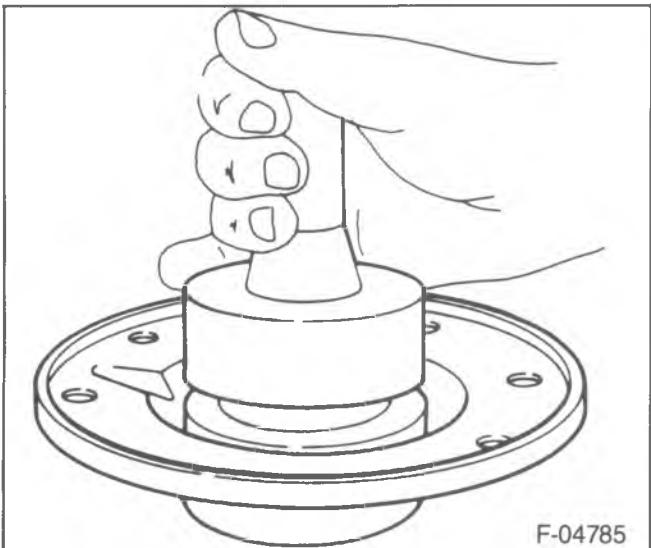

Figure 182—Installing the Seal
- Pinion oil seal (58) using J-3154-04 (figure 182).
- Pinion flange deflector (59).